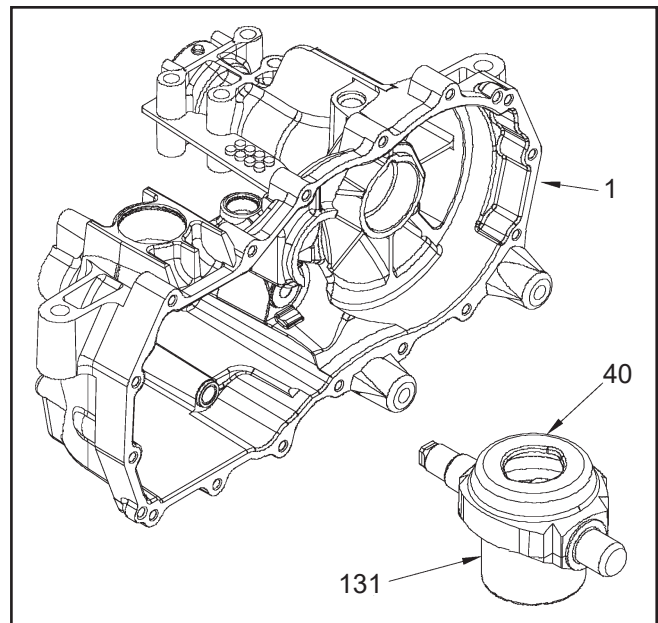

Figure 10.
7. **(See Figure 10)** Remove the swashplate (40) and pump cylinder block (131) as one assembly. NOTE: Removal will be aided by applying a small amount of pressure on the trunnion mounted swashplate towards the center section. Also note that the control arm (44, page 40) may be loosely assembled at this point to assist in swashplate removal. While gently removing the swashplate and block assembly, keep the block face flush with the center section to minimize damage to the running surface.
12. (See Figure 10) Place the pump block assembly (131), pistons down, on top of the thrust bearing (60) in the swashplate (40).